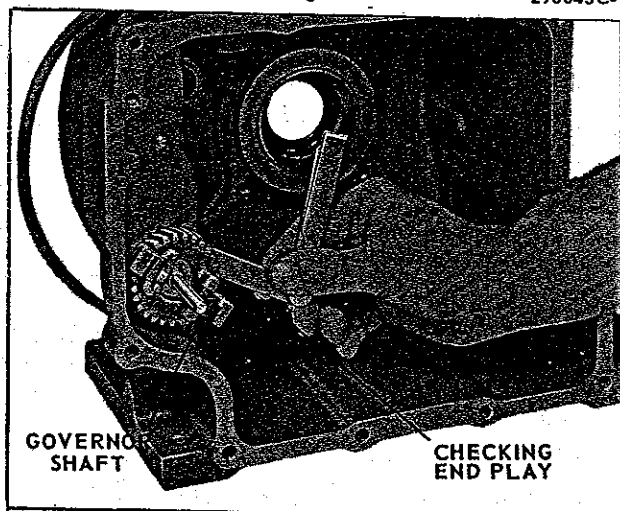

Fig. 34
**Reassembly** is made in reverse order. Maintain a clearance of .003 to .005" between gear hub and face of governor shaft boss in crankcase, *see Fig. 34*. This *end play* can be adjusted by tapping the governor shaft in either direction. Clearance between shaft and gear is .0005 to .002". When clearance becomes .005", replace worn parts.